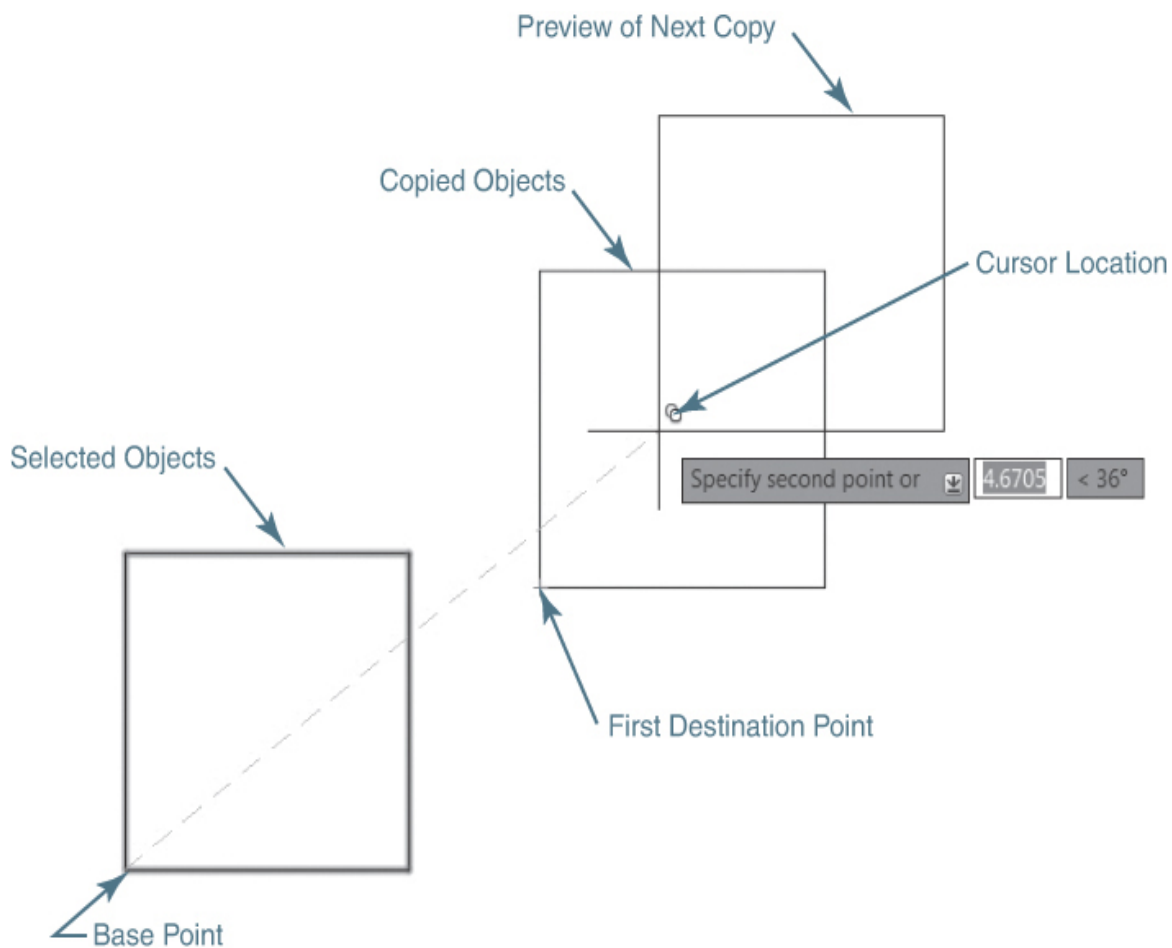

Figure 7-25
Using the first option, you typically pick a base (*from*) point by snapping to a key object feature using an object snap. You can then pick a destination (*to*) point, and the selected objects are copied to the new location as shown in Figure 7-25.
- 3 Snap to the lower-left corner of the square using the **Endpoint** object snap, as shown in Figure 7-25. AutoCAD prompts *Specify second point or <use first point as displacement>:*.
- 4 Copy the square using a second pick point, as shown in Figure 7-25. AutoCAD repeatedly prompts *Specify second point or ↓*.